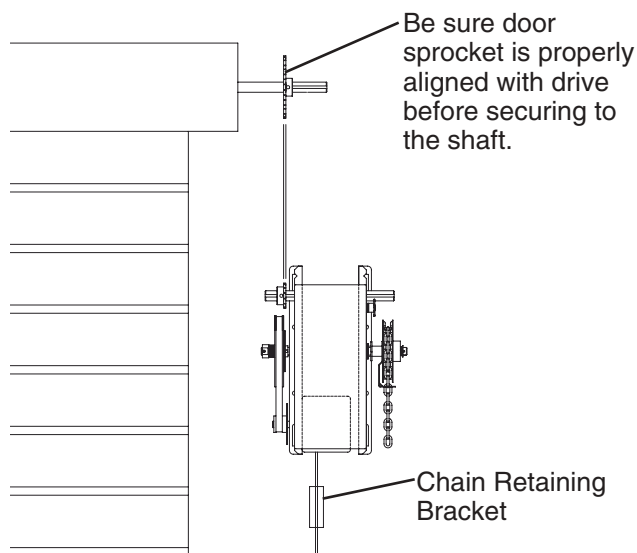

FIGURE 5
6. Align sprockets and secure (Figure 5).